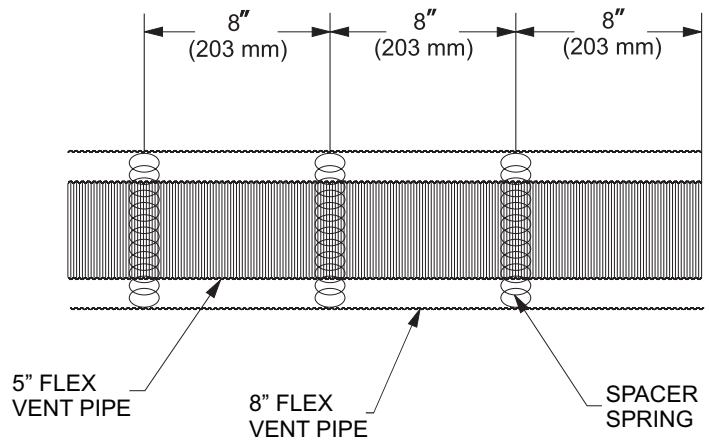

Figure 55
5. Install the Wall Firestop/Thimble assembly as required through the wall. Refer to the venting charts in the fireplace manual to determine the proper height and size of the vent opening. The minimum opening should be 10" wide by 12" high. The minimum combustible clearance from the horizontal vent is 1" from sides and bottom, and 3" above the vent pipe. See Figure 55.